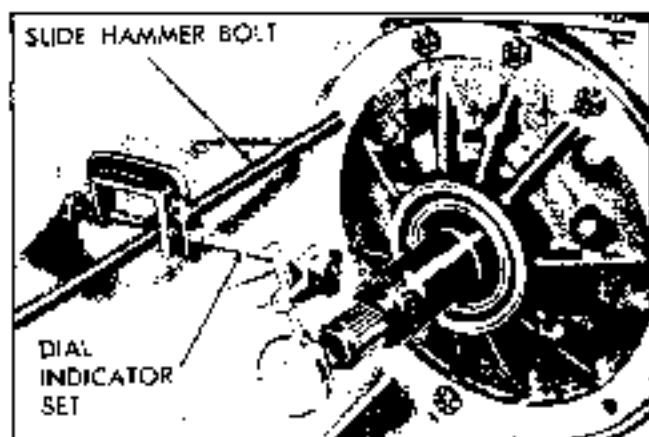

Fig. 7F-100 Checking front unit end play
6. Refer to chart (Fig. 7F-101) and select correct thickness of thrust washer to establish a running clearance of .008"-.051" (if end play is more than .051" with .097" thrust washer installed, check for excessive wear of assembled parts or omitted thrust washers, races or bearings in or behind planet carrier).